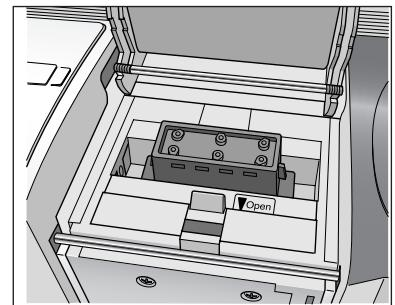

figure 5
⑤ Insert a stamp between the doors so that the teeth in the center of the doors fit into the notches in the center of the stamp (see figure 5). Make sure that the stamp surface lies flat on the printed draft sheet.